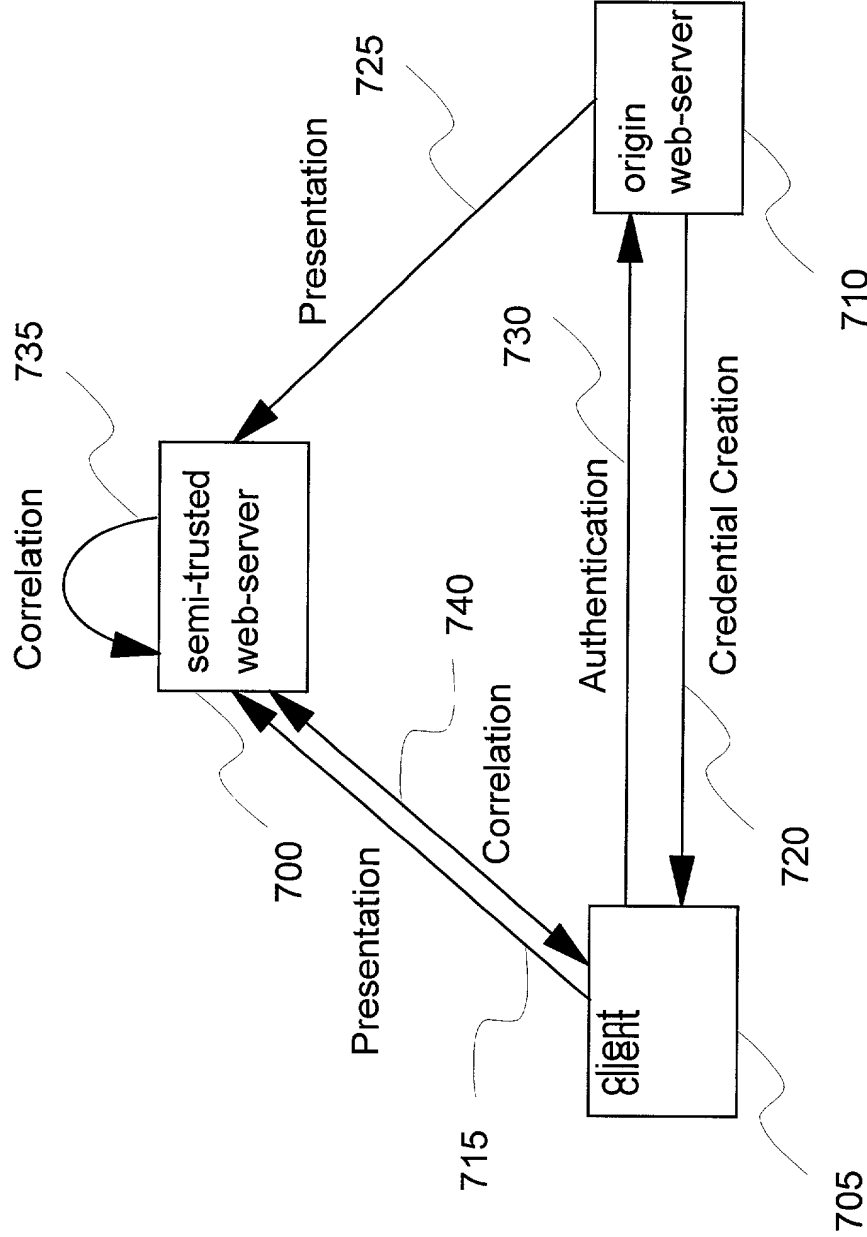

FIG. 7
FIG. 7 is a sequence diagram illustrating a process flow involving three entities: a Client (705), a semi-trusted web-server (735), and an origin web-server (710). The process begins with the Client (705) sending a Presentation (700) to the semi-trusted web-server (735). The semi-trusted web-server (735) then sends a Correlation (740) to the Client (705). The semi-trusted web-server (735) also sends a Presentation (725) to the origin web-server (710). The origin web-server (710) sends an Authentication (730) to the Client (705). Finally, the origin web-server (710) sends a Credential Creation (720) to the Client (705). The semi-trusted web-server (735) has a self-loop labeled Correlation (735).